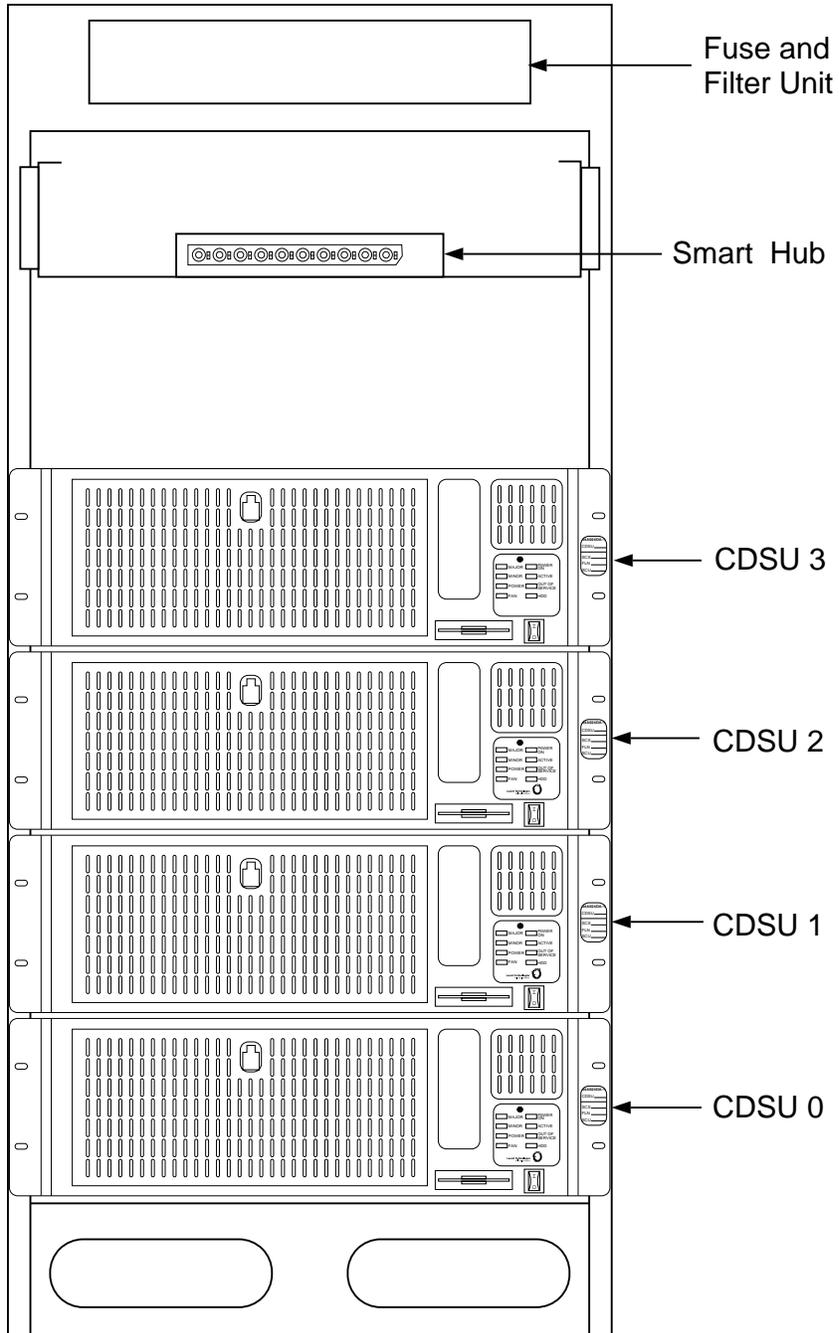

Figure 17. CDSC-II (J4A024D-1)
- Custom Data Services Cabinet (CDSC-II) (J4A024C-1) (Figure 17)